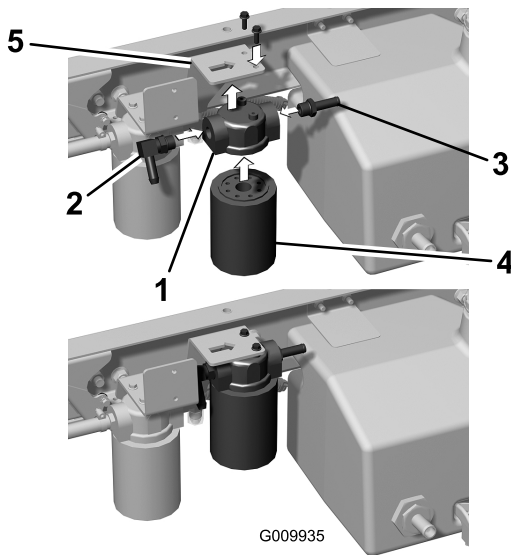

Figure 11
1. Mount a 90° barbed fitting to the inlet port of the filter head (Figure 11).
2. Mount a straight barbed fitting to the outlet port of the filter head (Figure 11).
3. Mount the filter head to the frame bracket with 2 flange-head screws (1/4 x 3/4 inch) as shown in (Figure 11).